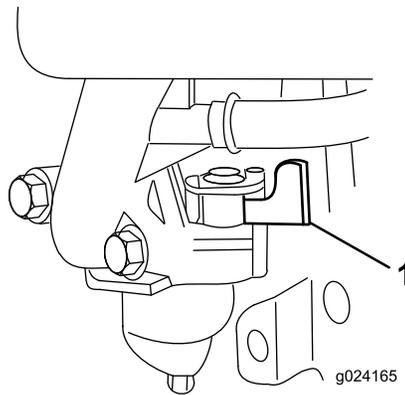

Figure 14
2. Open the fuel valve by moving the fuel-valve lever to the **right** (Figure 14).